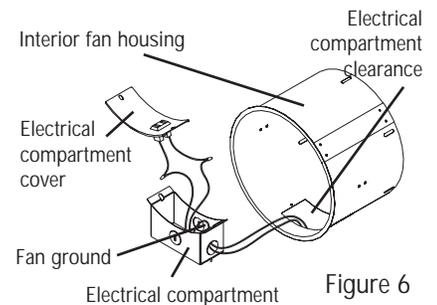

Figure 6
11. Install the Exterior wall Cap housing through the hole and onto the casing strips and secure in place using screws or nails. Seal the flange where the wall cap meets the wall with Caulk. (fig 6)